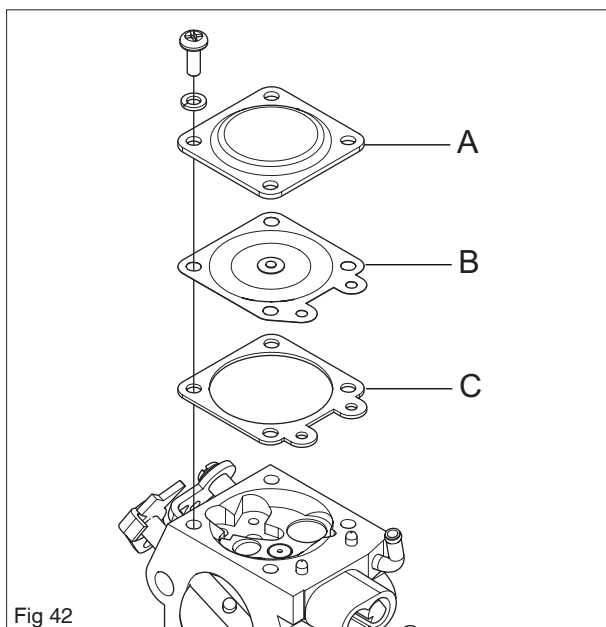

Fig 42
Fit gasket (C), the control diaphragm (B) and the pump cover (A). See figure 42.